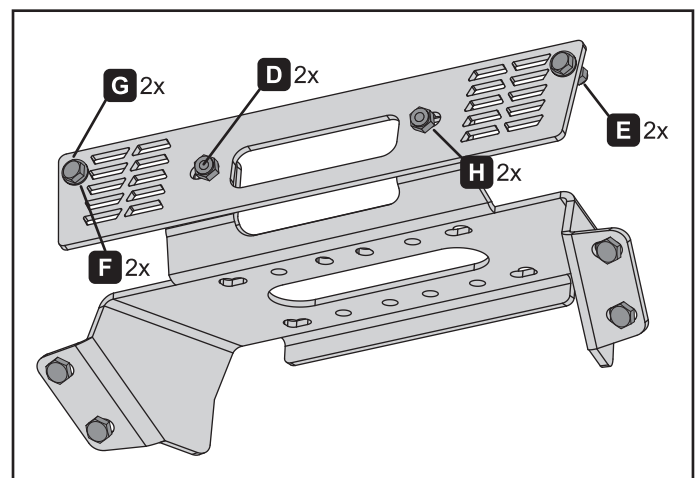

Figure 7.
4. Install fairlead bracket (B) onto bumper using bolts (G), washers (F) and nuts (E). See figure 7.